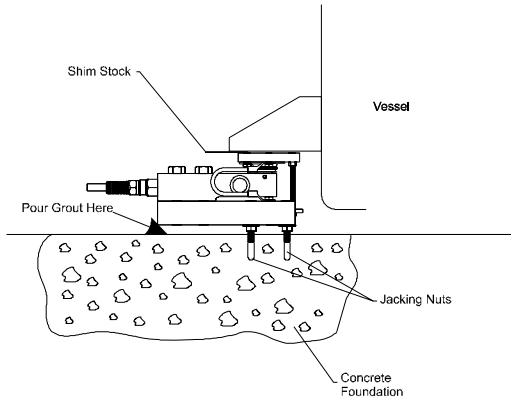

FIG. 21: ADJUSTING FOR LEVEL WITH SHIM STOCK
- Step 7. To adjust the level of the top plate, use shim stock between the top plate and the support bracket. (See Fig. 21)